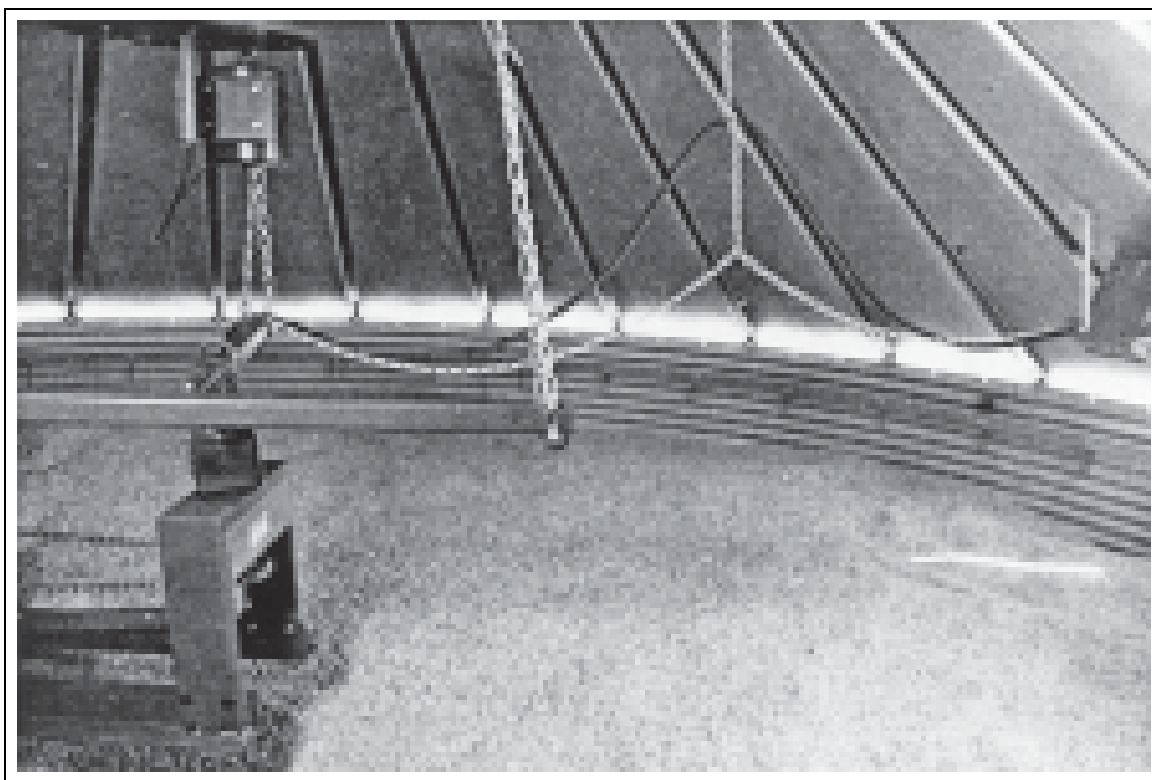

Figure 4B
6. At this time, hook the three (3) suspension chain hooks over the top edge of the fill hole. Space them equally around the fill hole. (See Page 40 or Figure 4B.)
7. Install the switch box above the inspection hole. Be sure the Red Giant will not hit it and do not forget the brace. (See Figure 4B above or Figure 6A on Page 36.)